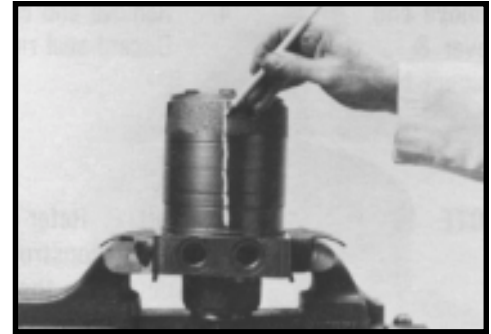

Figure 3
2. Scribe an alignment mark down and across the Torqlink™ components from end cover (2) to housing (18) to facilitate reassembly orientation where required. Loosen two shuttle or relief valve plugs (21) for disassembly later if included in end cover. 3/16 or 3/8 inch Allen wrench or 1 inch hex socket required. SEE FIGURES 3 & 4.